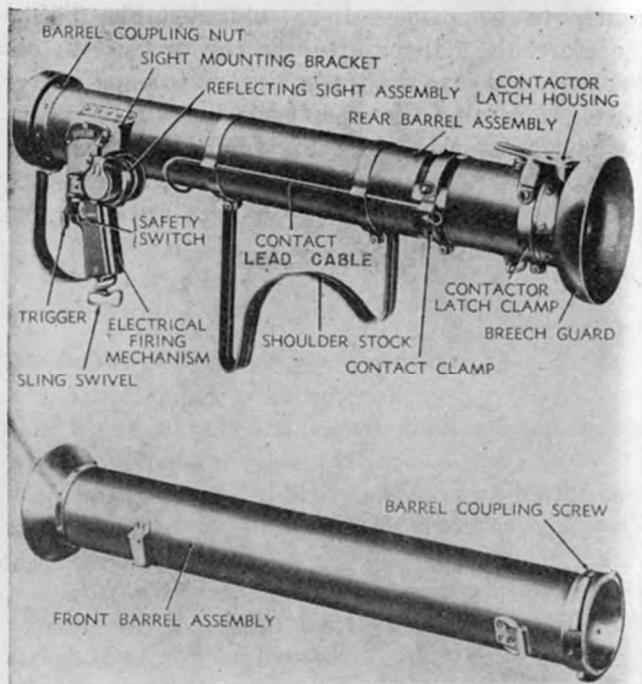
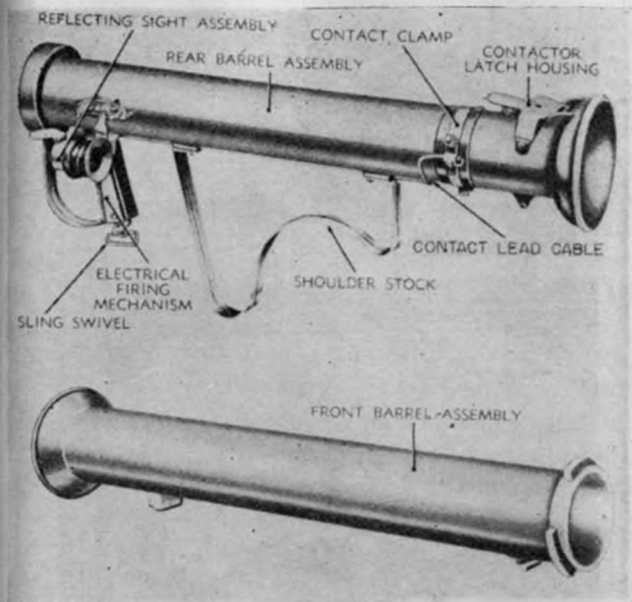

Figure 48. Front and rear barrels of launcher, M20—left side view.
Figure 49. Front and rear barrels of launcher, M20B1—left side view.
a. The difference between the M20 and M20B1 launchers is in the fabrication of the front and rear barrels (figs. 48 and 49). The tubes of the M20 launcher are manufactured from aluminum tube
- (1) On the M20 launcher the contactor latch housing is mounted on the contactor latch clamp in front of the breech guard (fig. 48). On the M20B1 launcher the contactor latch housing is mounted in front of the breech guard on lugs cast as a part of the barrel (fig. 49). The latch housing protrudes through an opening in the breech guard.
- (2) A steel blade, riveted to the rear of the body of the contactor latch housing, engages in the unpainted groove at the rear of the fin assembly. This holds the rocket in its proper firing position in the launcher. The contact between the blade of the contactor
- (1) The contact lead cable (figs. 48 and 49) is an insulated wire that connects the firing mechanism in the trigger grip to the contact spring clamp.
- (3) The contact lead cable, encased in an aluminum tube, connects (fig. 48) the contact